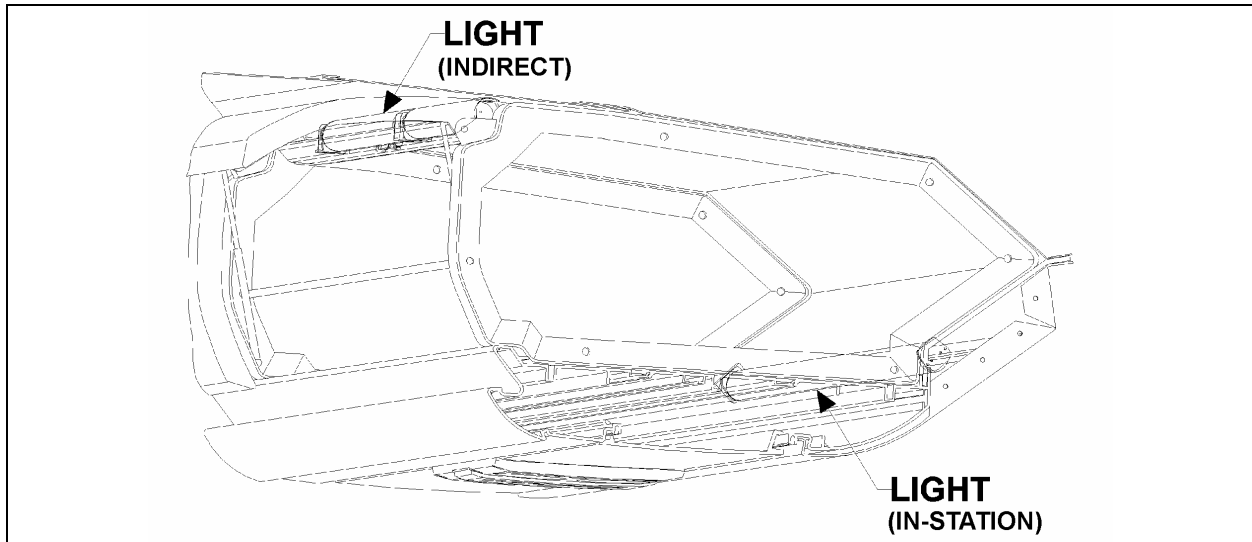

FIGURE 44: PARCEL RACK
4. Lift the hinged cover and replace the two retaining screws (Fig. 44).